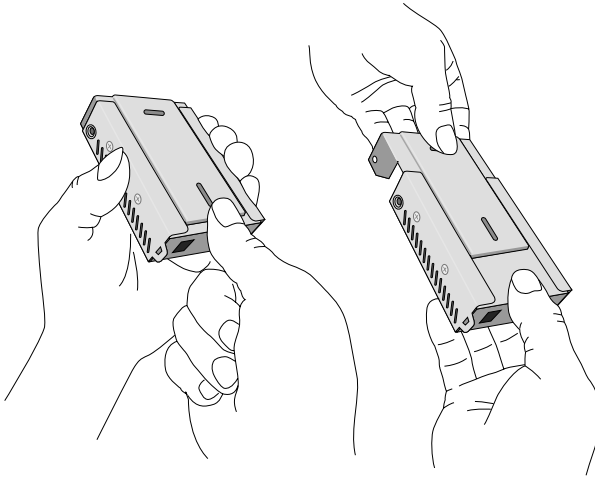

Figure 4 Sliding the Wall-mounting Bracket off the Switch
3. Gently slide the bracket off the switch. See Figure 4.